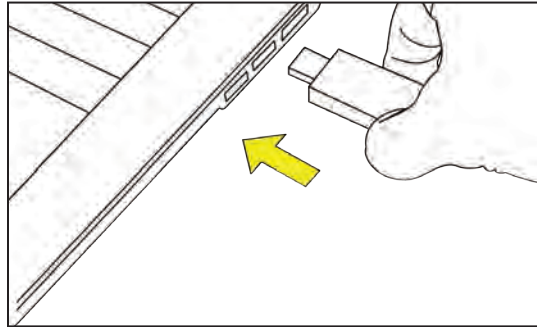

Figure 11. Inserting the USB transceiver into the computer.
**STEP 2.** Insert the USB transceiver into any USB port on the computer. See Figure 11. The installation process is automatic.